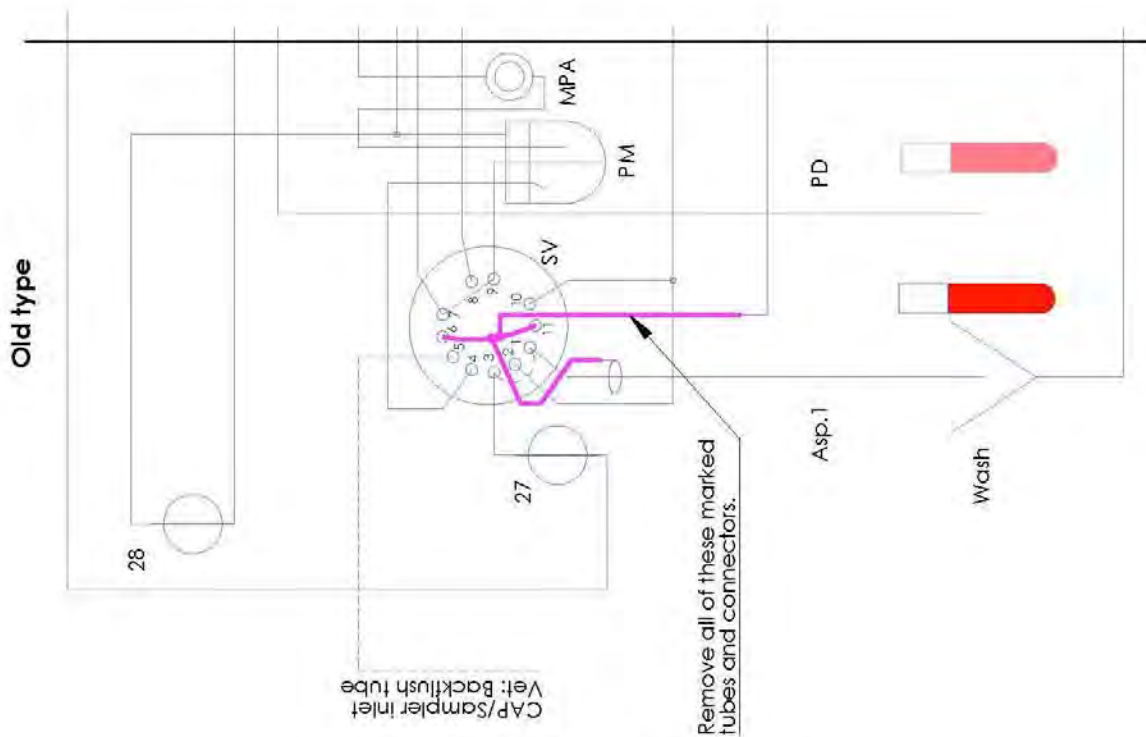

Figure 2
4. See Figure 2: Remove all of the marked tubes and connectors. (These will be replaced with the tubing kits 50 and 51)